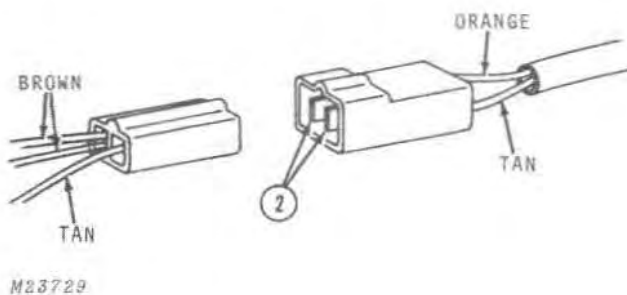

Fig. 4-Testing Brake Light Switch
2. Connect a flashlight tester between the orange and tan leads, Fig. 4. Test light should light when brake is applied and go off when brake is released.